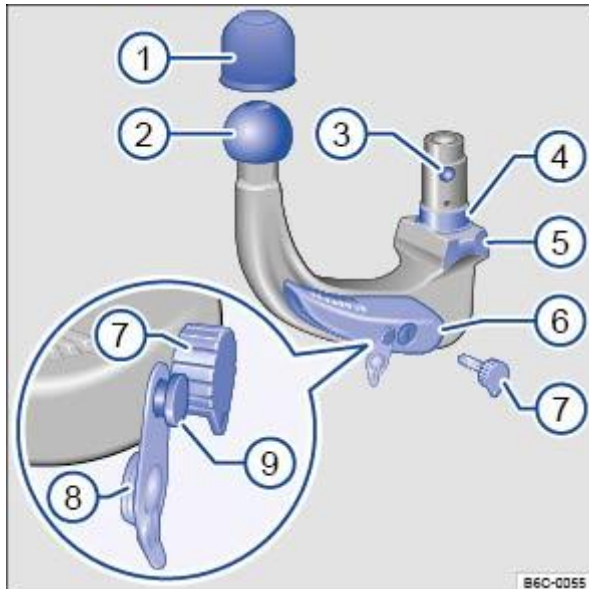

Fig. 155 Overview: removable ball head.
Key to ⇒ Fig. 155
Check to ensure that the mounting, locking lever ⇒ Fig. 155 , shank  and the retaining balls  of the ball head are all clean and not damaged ⇒ . Clean if necessary.
The lock cover ⇒ Fig. 155  is open and the key  is inserted
Push the ball head firmly upwards until it engages. The centring devices ⇒ Fig. 155  must engage in the mounting points on the vehicle.
The locking lever ⇒ Fig. 155 ⑥ is in the uppermost position.
❗ If the smallest diameter of the ball ⇒ Fig. 155 ③ is less than 49 mm, do not use the towing bracket.
- ❑ Remove the lock cover ⇒ Fig. 155 (8) from the lock in the locking lever and insert the key (7) into the lock.
- ❑ Turn the key (7) anti-clockwise until the part of the key with the hole is at the top.
- ❑ Hold the neck of the ball head under the ball head (2) with your hand.
- ❑ Press the release pin (9) and at the same time press the locking lever (6) down as far as it will go ⇒ . The ball head is pre-tensioned.
- ❑ Let go of the release lever (6) and stow the pre-tensioned ball head safely with the vehicle toolkit.